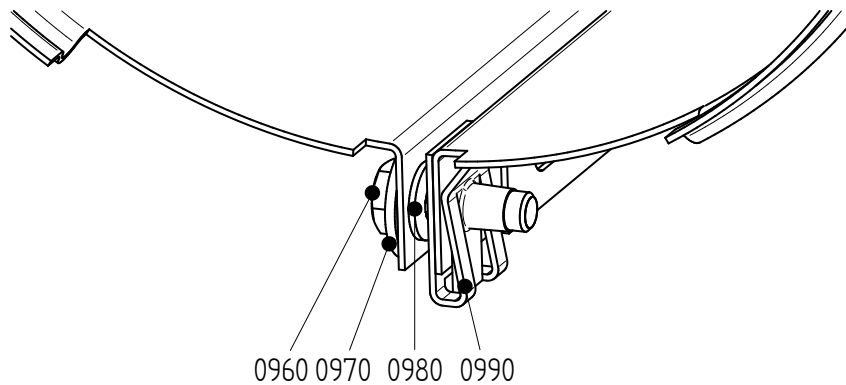

Figure 9: Fitting jacket.
- 1 Loosen bolts (0960). See figure 9.
- 3 Close the jacket and fit bolt (0960). See figure 9.
- 5 Close the jacket and fit bolt (0960). See figure 9.